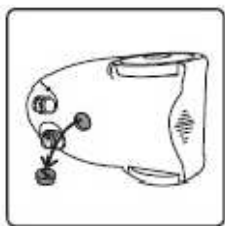

fig.26
2. Lay the base on its right side. Unscrew and remove the drain plug. (fig.26)